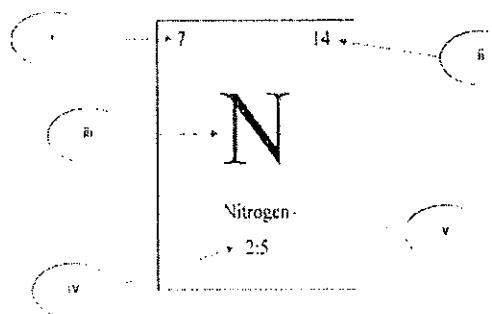

Figure 1(b)/Rajah 1(b)
- b) Identify the element in the Periodic Table as shown in Figure 1(b):